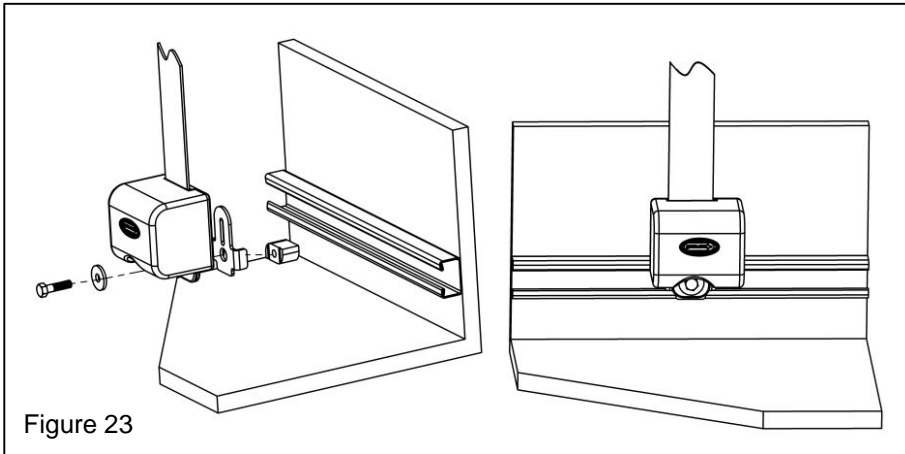

Figure 23
1. Place track nut into Unistrut® track (Figure 23).